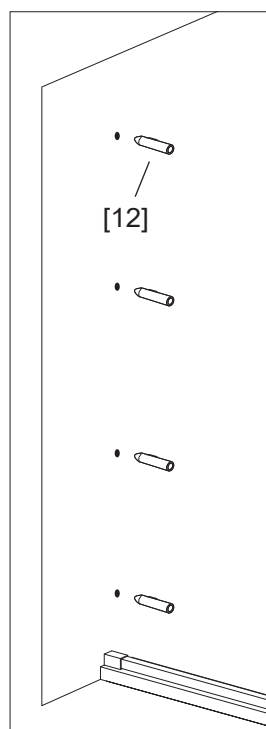

Fig 2.3
4. Install the **Plugs #1 [12]** and secure the **Wall Profile [01]** with **Screws #10 X 1.6" [11]**. (Fig 2.3, Fig 2.4)